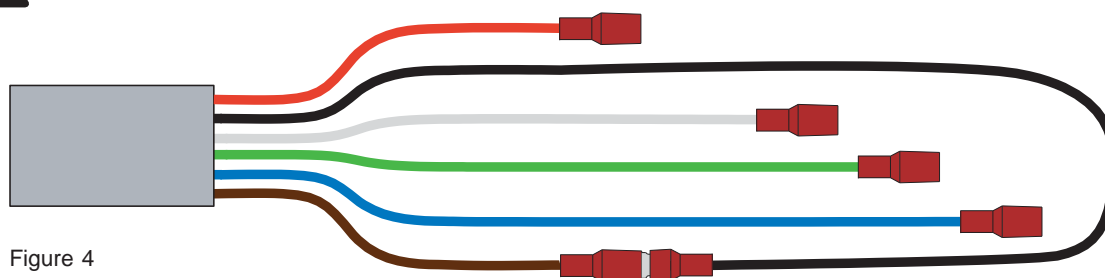

Figure 4
- Remove the insulation from the flying lead (See Fig 4.)